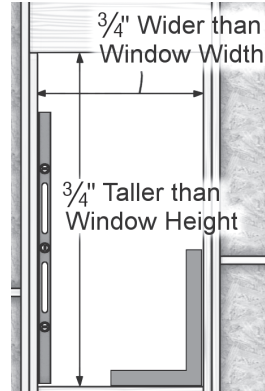

Figure 1
- (Required)** The Rough Opening should be level, plumb, and square, and should be sized according to **Figure 1.**